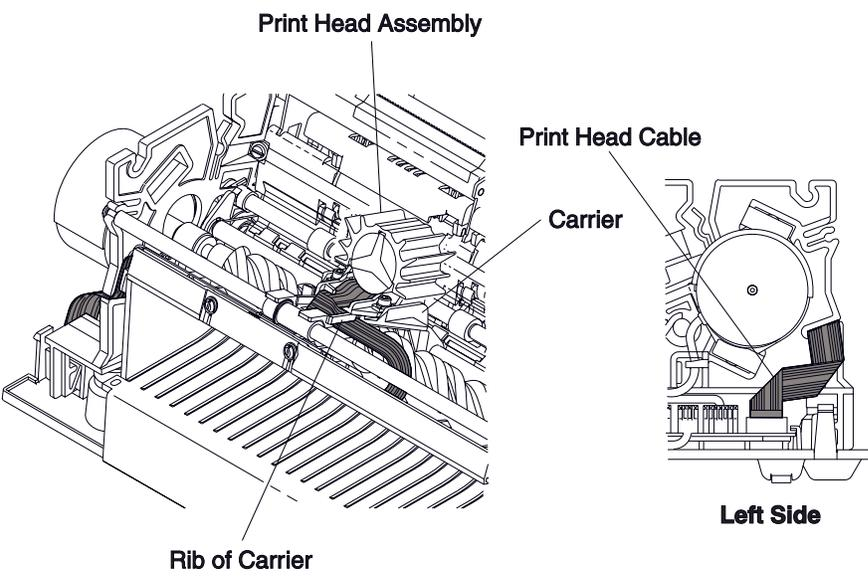

Figure 6-57. Print Head Cable Routing
- 5 Tuck the print head cable under the rib on the carrier and move the carrier to the right side of the printer. See Figure 6-57 on page 6-85. Slide the cable under the home sensor card assembly and then route it through the left side frame. The 90 degree bend in the cable should be flush with the slot in the left side frame.